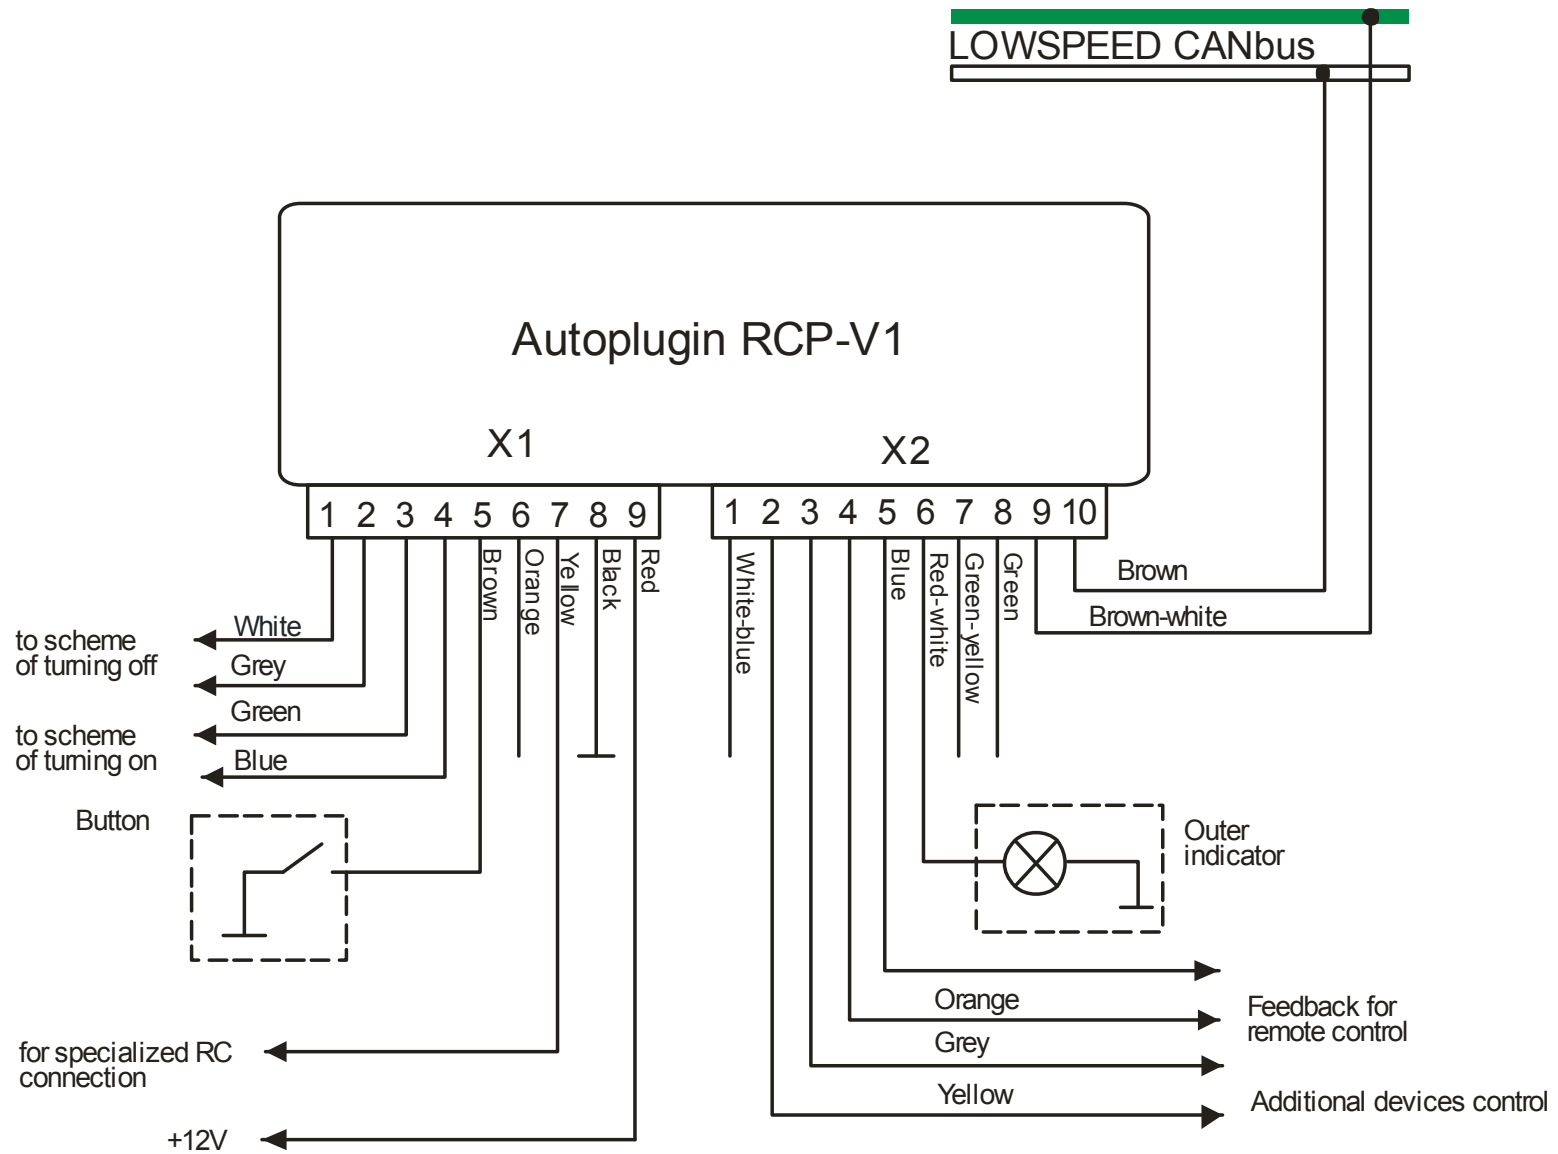

Figure 1
- **General connection scheme (fig.1, page 2)**
- Connect the module to the vehicle's wiring according to the scheme at the fig.1. Connect the module to the receiver unit of remote control, according to the schemes at the figures 3-8. Make task specific connections, if necessary.